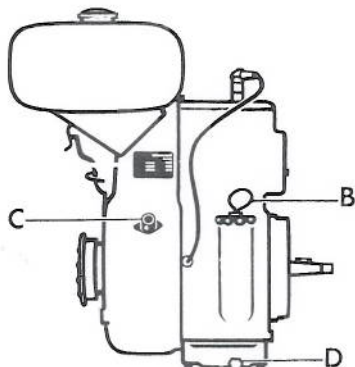

Fig. 1
Fill the fuel tank with ordinary petrol by means of a sieve funnel. Check the engine oil level with the dip stick (B, fig. 1). The oil quantity should be maintained at a level between the max. and min. marks shown on the dip stick. Check the air filter; if necessary, clean. If a oil bath air filter is fitted top up oil to correct mark indicated on filter bowl.
- a) When running with petrol: Put the engine into idling position and press the stop button (C, fig. 1). Close the fuel cock.
- b) When running with paraffin: Switch the fuel cock over to "petrol" position and let the engine run for 2-3 minutes. Then put the engine into idling position and press the stop button (C, fig. 1). Close the fuel cock.